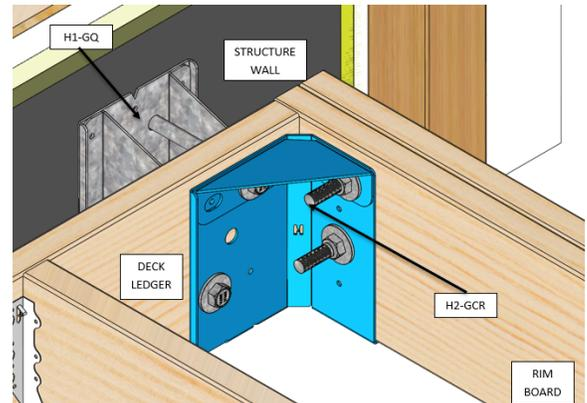

FIGURE 9—TYPICAL QUEEN BRACKET (H1-GQ) AND CORNER BRACKET (H2-GCR OR H2-GCL) INSTALLATION
4.2.2 H2-GCL AND H2-GCR CORNER BRACKETS: At corner locations, an H2-GCL or H2-GCR corner bracket may be used in combination with the H1-GQ or H1-GQS brackets by placing the corner bracket on the outside face of the ledger board before tightening the hex nuts. The corner brackets are attached to the rim boards using two 5/8-11 hot dipped galvanized bolts, two washers and a hex nut. The washers are placed between the bolt head and the inside face of the rim board and between the hex nut and the bracket; the nuts are hand tightened and then additionally tightened with a wrench one additional full turn. (See figures 9 and 10).
²For loads on the deck rim board. See Figure 9.